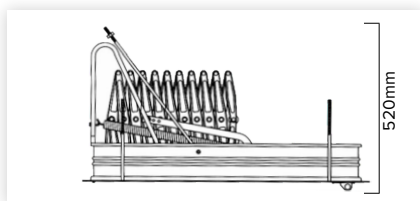

figure 2
- The area for the opening must be clear of wiring, plumbing and structural members such as beams and trusses with a minimum clear height above the ceiling of 520mm for the SC30 (figure 2).